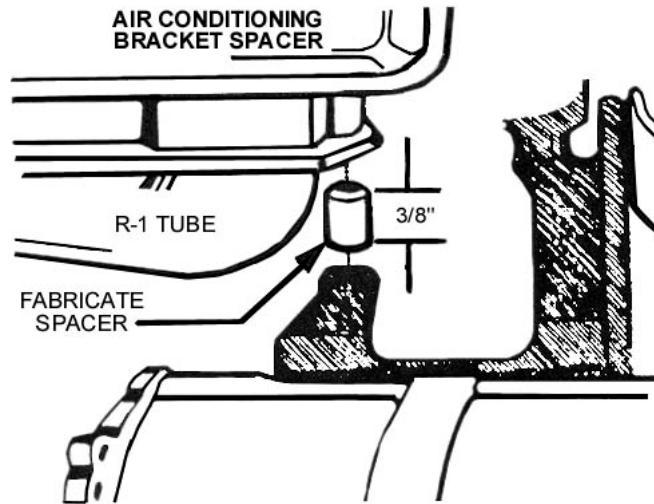

Figure 1
**NOTE:** 1968 Chevelle/El Camino models: Fabricate a spacer and use one bolt from the stock exhaust manifold. See *Figure 1*.